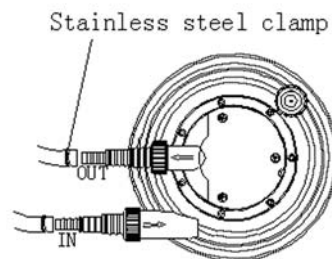

Figure 2
2. Connect your pump to the filter tubing connector marked by the symbol in arrow with flexible hose. Lay the hose in the channel. Attach the tubing to the filters connector marked by the symbol out arrow and lay it in the channel.. You should use stainless steel clamps to create a water tight seal at all of your tubing connection (filter and pump). (See figure 2)